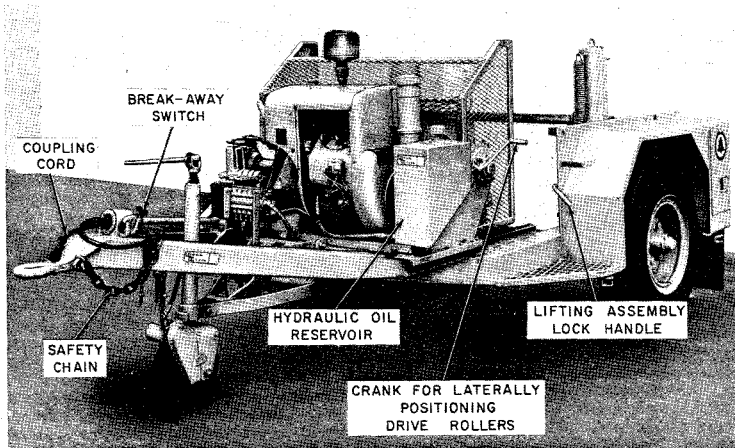

Fig. 1—Cable Removal Unit
2.01 The cable removal unit described in this section is a Hogg-Davis Model H13.5-30HE-CRV Cable Reel Unit which is made up of a power winding unit mounted on an open U-shaped trailer frame. (See Fig. 1.) The trailer incorporates